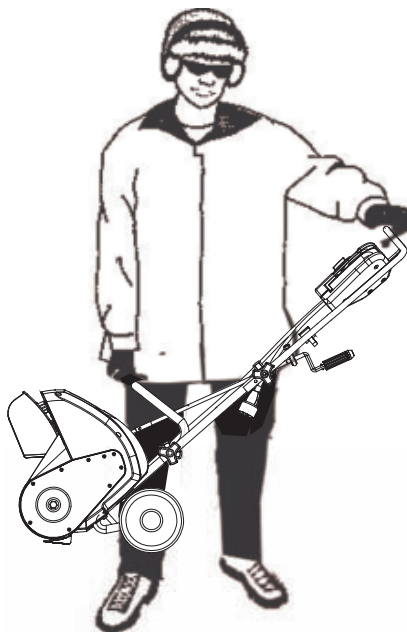

Fig. 10
TRANSPORTING THE SNOW SHOVEL *(See Figure 10)*
- When moving the Snow Shovel, grasp it by the top and bottom handles (Fig. 10).